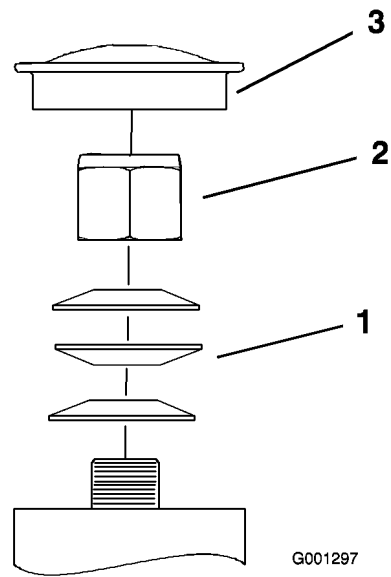

Figure 43
3. Remove the dust cap from caster and tighten lock nut (Figure 43).
4. Tighten the locknut until the spring washers are flat and then back off a 1/4 turn to properly set the pre-load on the bearings (Figure 43).
Important: Make sure spring washers are installed correctly as shown in Figure 43.
5. Install the dust cap (Figure 43).